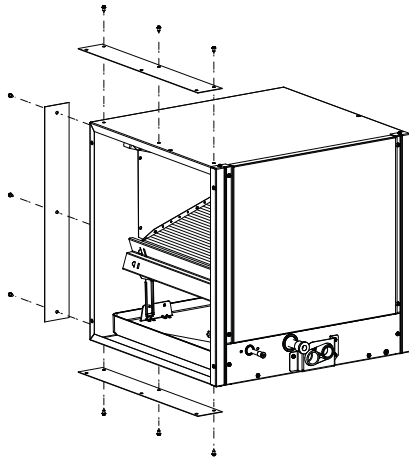

Fig. 5 - Mount Attachment Plates
2. Use self-tapping screws to mount attachment plates to coil casing. See Fig. 5.